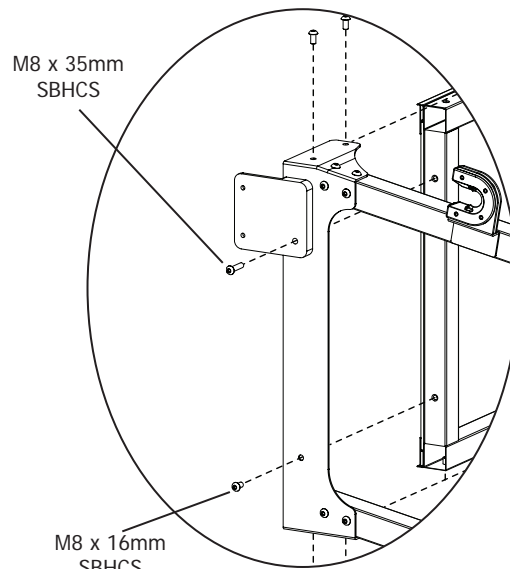

Fig. 4-2
4-2: Slide the left leg assembly under the table assembly, as shown in Fig. 4-2.
4-3: Screw one (1) M8 x 35mm SBHCS through the top hole on the side of the left frame side, and one (1) M8 x 16mm SBHCS through the bottom hole, as shown in Fig 4-2, **finger-tighten** only.
4-4: Thread two (2) M8 x 16mm SBHCS through the top side of the left frame side, as shown in Fig 4-2.